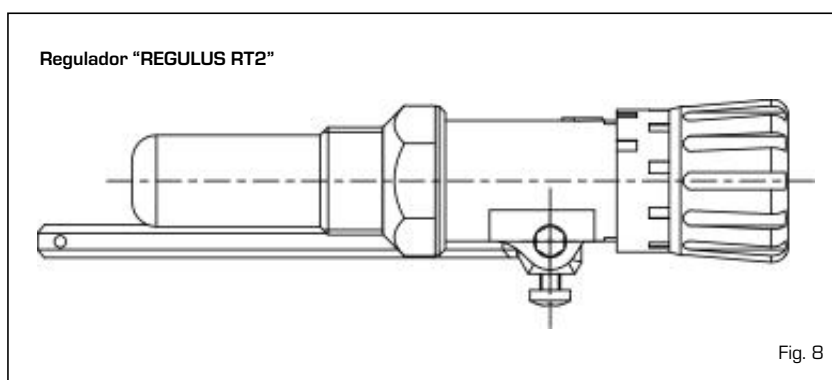

Fig. 8
4.6.2 Regulador "REGULUS RT2" (fig. 8)